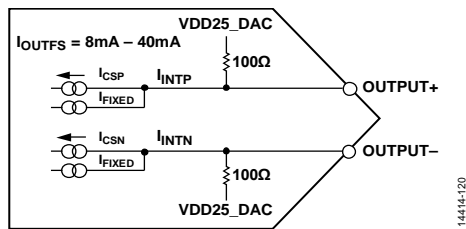

Figure 137. Equivalent DAC Output Circuit
The AD9164 provides complementary current outputs, OUTPUT+ and OUTPUT-, that sink current from an external load that is referenced to the 2.5 V VDD25\_DAC supply. Figure 137 shows an equivalent output circuit for the DAC. Compared to most current output DACs of this type, the outputs of the AD9164 consists of a constant current ( $I_{FIXED}$ ), and a peak differential ac current,  $I_{CS}$  ( $I_{CS} = I_{CSP} + I_{CSN}$ ). These two currents combine to form the  $I_{INTx}$  currents shown in Figure 137. The internal currents,  $I_{INTP}$  and  $I_{INTN}$ , are sent to the output pin and to an input termination resistance equivalent to 100  $\Omega$  pulled to the VDD25\_DAC supply ( $R_{INT}$ ). This termination serves to divide the output current based on the external termination resistors that are pulled to VDD25\_DAC.
The example shown in Figure 137 can be modeled as a pair of dc current sources that source a current of  $I_{OUT}$  to each output. This differential ac current source is used to model the signal (that is, a digital code) dependent nature of the DAC output. The polarity and signal dependency of this ac current source are related to the digital code (F) by the following equation: